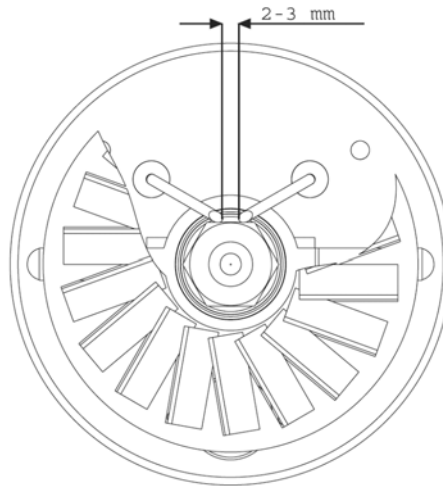

Fig. 2
Every 50 hours of operation: wash the filter with clean oil, or, if very dirty, replace it, remove upper body parts and clean inside and ventilator with compressed air, check correct attachment of H.T. connectors to the electrodes and check H.T. cables, remove burner assembly, clean and check electrode settings, adjust according to Fig.2.
• Check electrodes setting (see scheme Fig. 2)